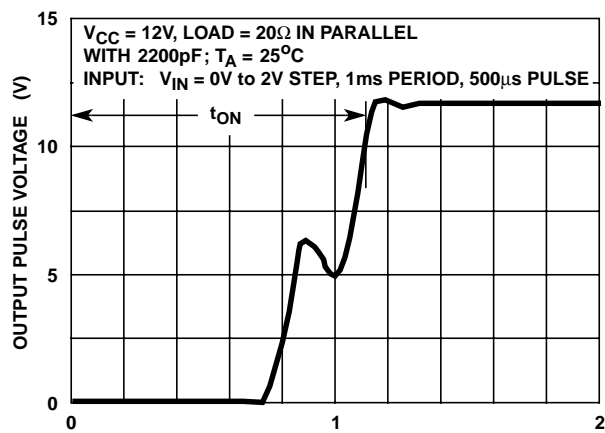

FIGURE 3A. OUTPUT TURN-ON TIME (μ s)
5. Refer to Figures 3A and 3B for typical switching speeds with a 20Ω Load.